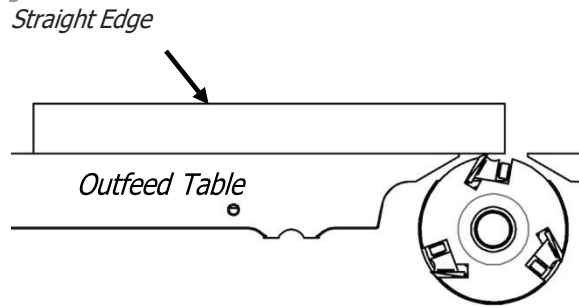
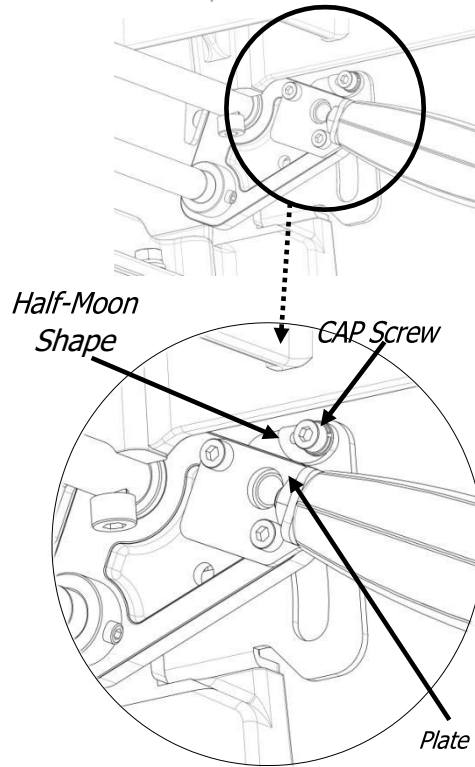

Figure 37: Checking Outfeed Table
FIG. 39: Back View of Outfeed Table Adjustment
STEP 2: Place a straight edge on the outfeed table halfway over the cutterhead as shown in **FIG. 37**. Rotate drive belt, if necessary, to bring an insert knife to top-dead-center for referencing to straight edge.
STEP 4: Loosen cap screw on the back (inside) of the outfeed table adjustment lever as shown in **FIG. 39**. Lower the outfeed table to adjust the straight-edge level with the top dead center of the knife inserts as in **FIG. 37**.